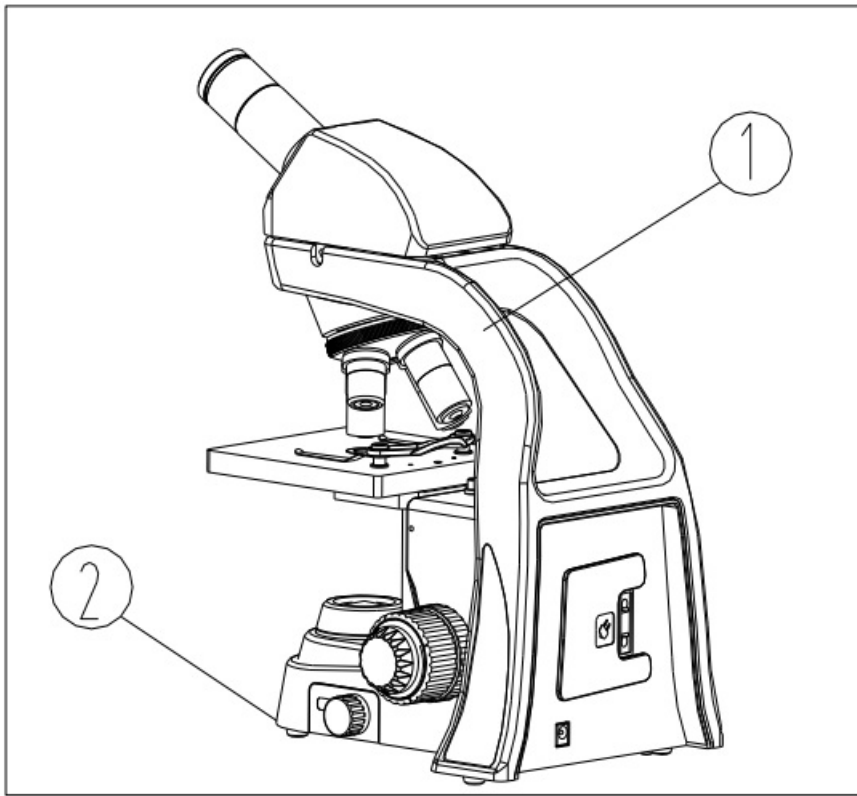

Fig. 1
3. When moving the microscope, keep holding the rear cover hand clasp ① and the front end of microscope body② with each hand. Handle with care. (See Fig. 1)